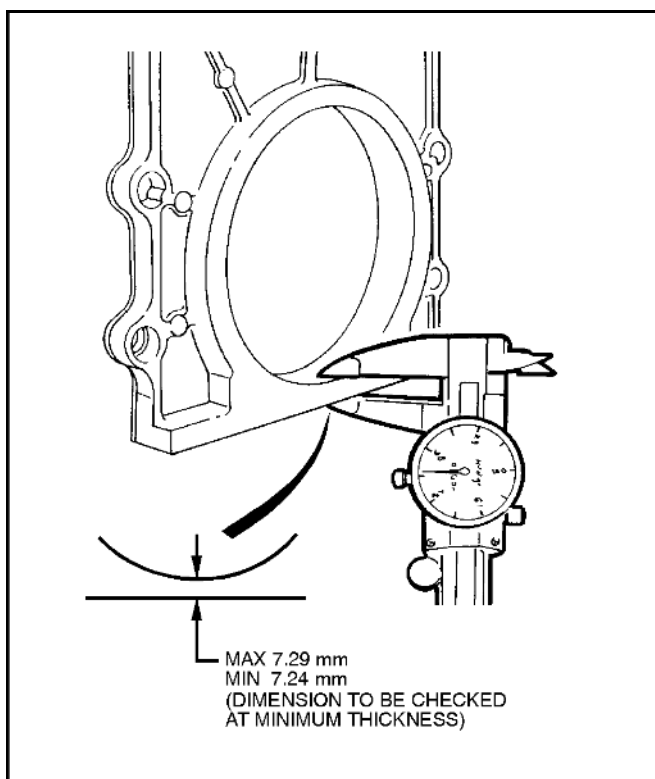

Figure 6A1-1-305
1. Prior to reinstallation of rear main oil seal housing, check thickness of housing as shown in Fig. 6A1-1-305. If dimension is not within specification of 7.24 - 7.29 mm, replace rear main oil seal housing.